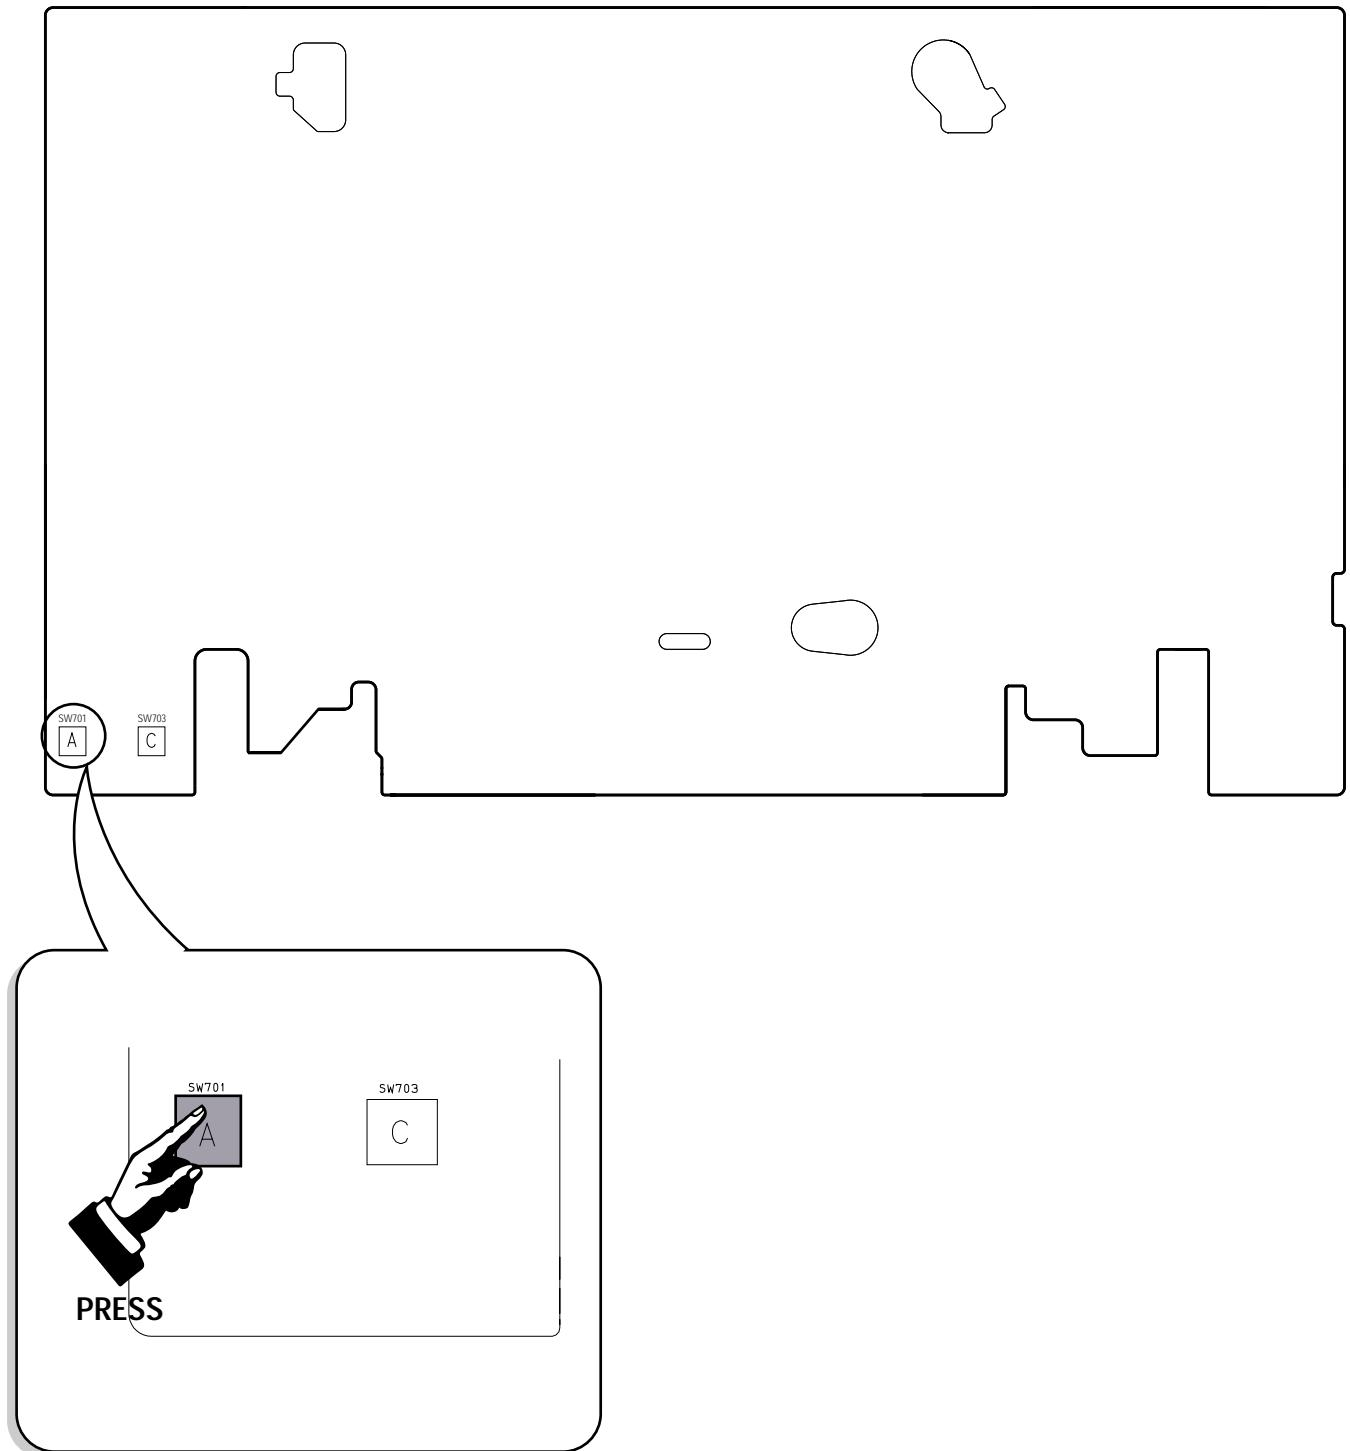

Fig. 5-2 Main PCB (Top View)
- 2) Press the "SW701" button on Main PCB to set the adjustment mode. (See Fig. 5-2)